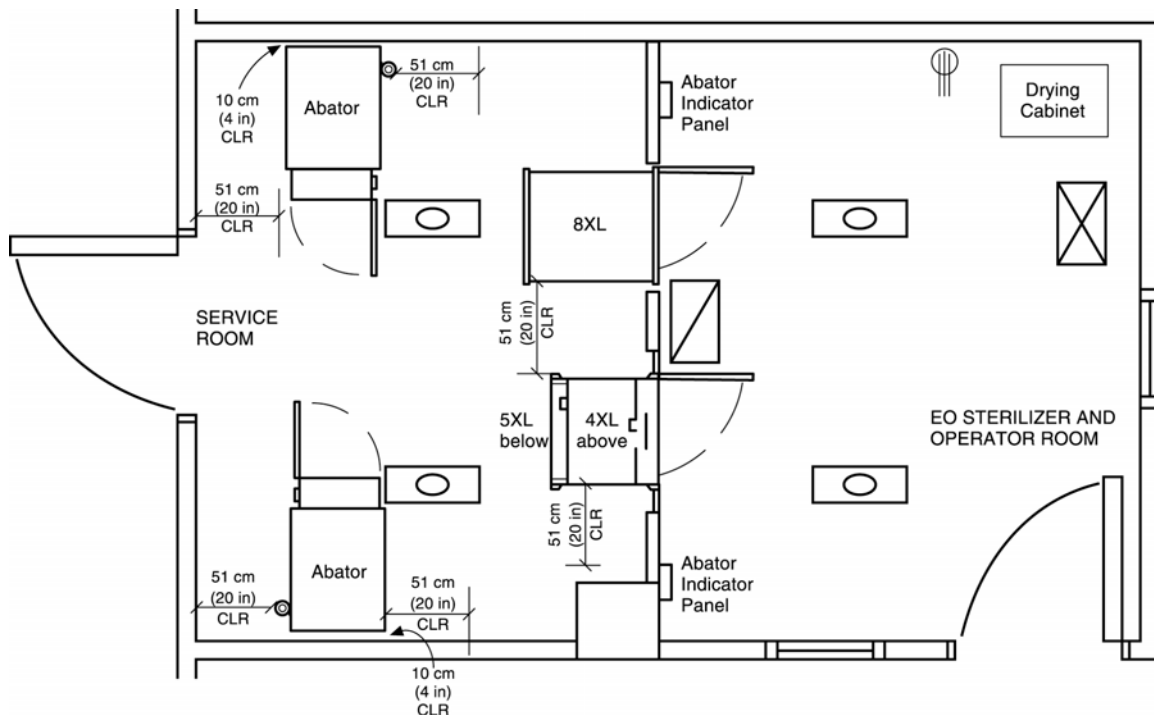

Figure 5. Equipment Location Worksheet (Example).
- ☐ The location allows 51 cm (20 inches) of clearance space at the top and sides of the sterilizer for maintenance and service (see Figure 5).
Based on the sketch of the site layout, complete an Equipment Location Worksheet to show each piece of equipment in the work area (see Figure 5). A blank worksheet is provided at the back of this manual.